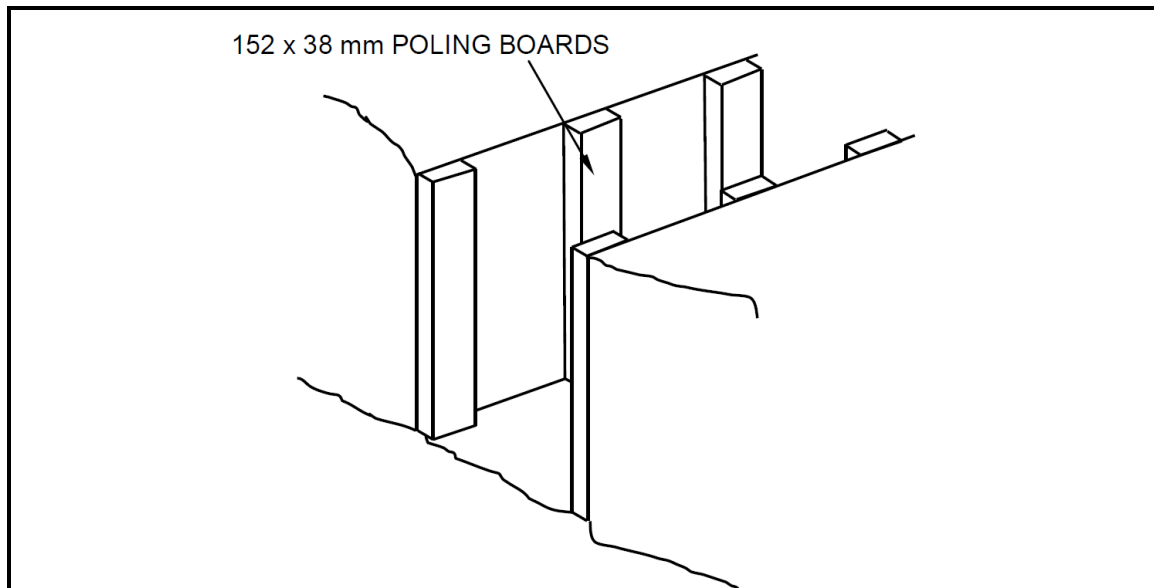

FIGURE 4.5
4.5 FIGURE 4.5 below shows the incomplete shuttering for a shallow trench in firm soil. Study the drawing and answer the questions that follow.
4.5.1 Identify any TWO members that have been omitted in FIGURE 4.5 and predict the likely consequence if these members are omitted during excavations. (3 x 1) (3)